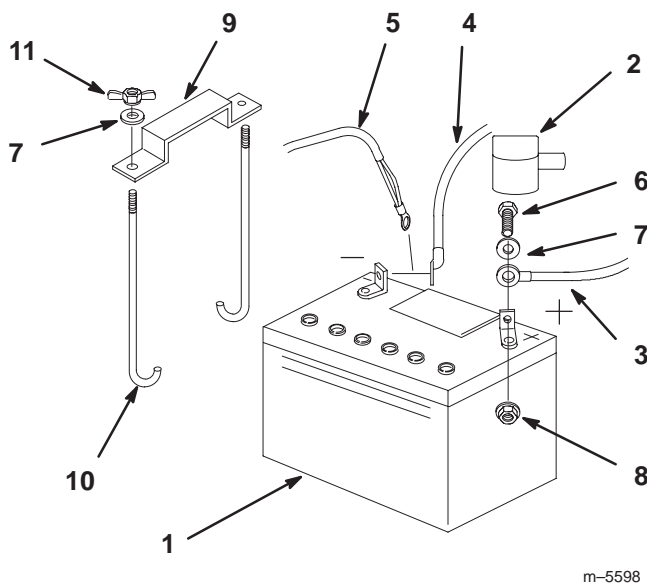

Figure 56
1. Position battery in tray with terminal posts toward the engine (Fig. 56).
4. Secure cables with 2 bolts (1/4 x 3/4 inch), 2 washers (1/4 inch), and 2 locknuts (1/4 inch) (Fig. 56).
6. Secure battery with J-bolts, hold down clamp and 2 washers (1/4 inch), and 2 wing nuts (1/4 inch) (Fig. 56).
3. First disconnect the negative battery cable and ground wire from the negative (-) battery terminal (Fig. 56).
4. Slide the red terminal boot off the positive (red) battery terminal. Then remove positive (red) battery cable (Fig. 56).
5. Remove both wing nuts (1/4 inch) securing the battery clamp (Fig. 56).